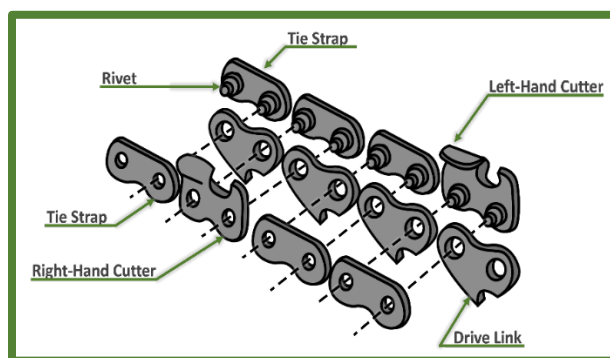

Figure 2.1.6—The major components of a chain saw.
- A saw chain has four major components (figure 2.1.6):